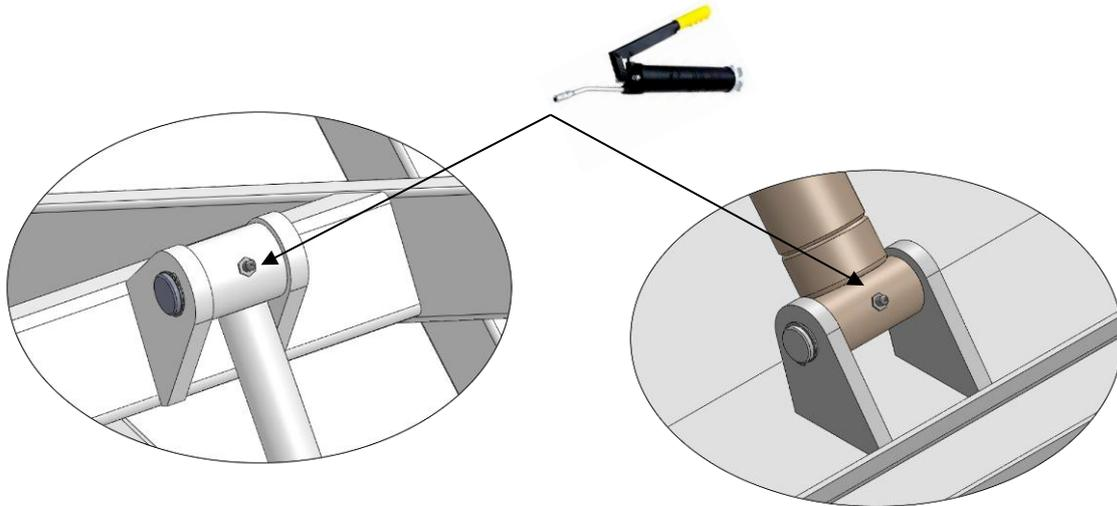

Fig.18
1. Lubricate all moving parts with lubricant(see Fig.18).